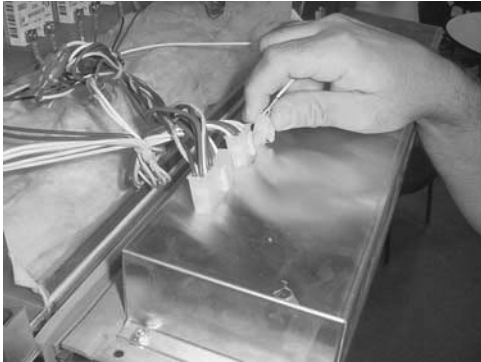

Figure 3-35
2. Pull connectors from back of panel and remove panel. Figure 3-35. Install complete panel in reverse order. When installing the PC board, continue to step 3.